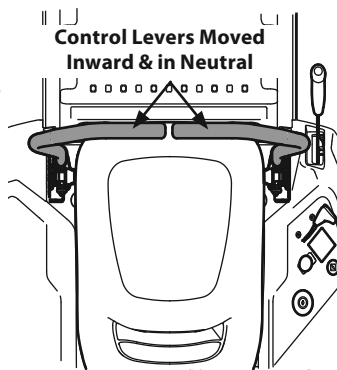

Figure 24
2. Move the RH and LH lapbar drive control levers inward in the neutral position which also disengages the parking brake. Refer to Figure 24.